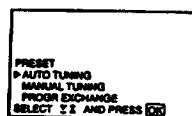

Fig. 5
- 2 Select "PRESET" with Δ or ∇ and press OK. The PRESET menu appears. (See Fig. 5.)